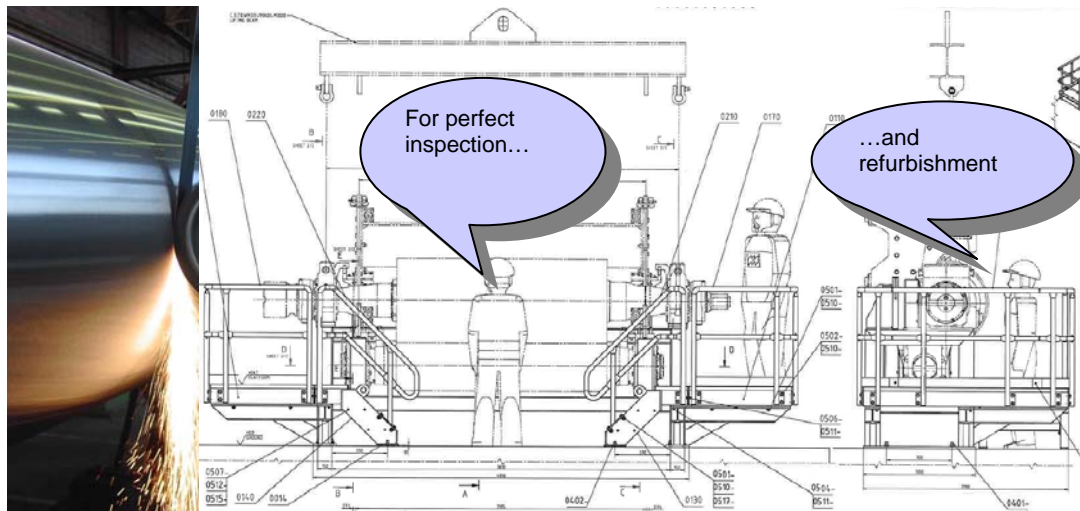

Figure 8. Roll refurbishment and preparation station.
- Perfectly **reconditioned pinch rolls** are provided by a roll refurbishment station (Figure 8) with free access for pinch roll inspection and safe conditioning work.